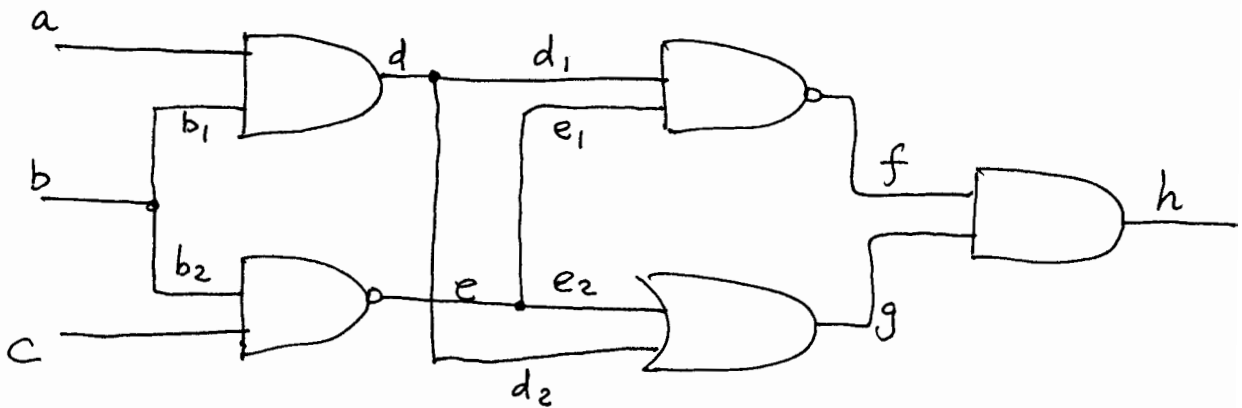

Fig. 4.
5. For the circuit shown Fig. 4, (a) use critical path tracing to determine faults detected by the test $abc=111$. Note that you have to first collapse faults using equivalence relation. (b) Change the logic value of input b from 1 to 0 and determine the remaining faults that can be detected. (16%)